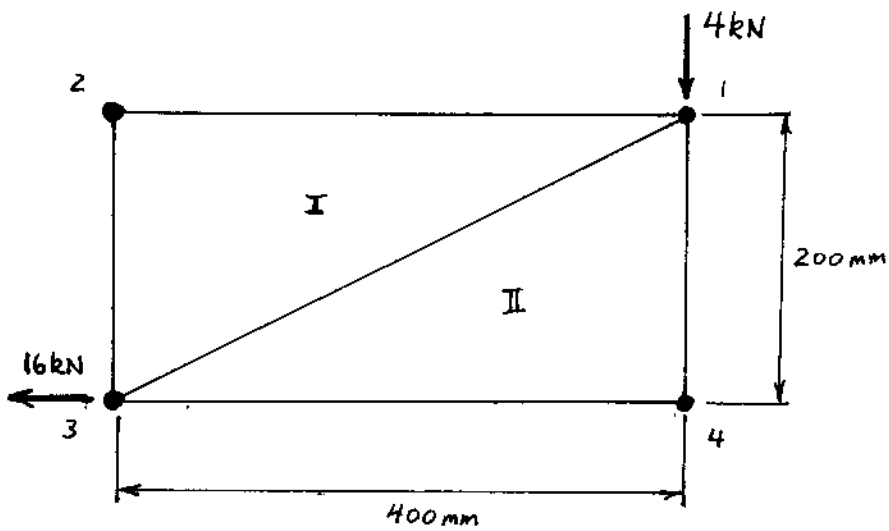

FIGURE 3
- 3) The fully idealized cross-section shown in Figure 3 has the following properties: